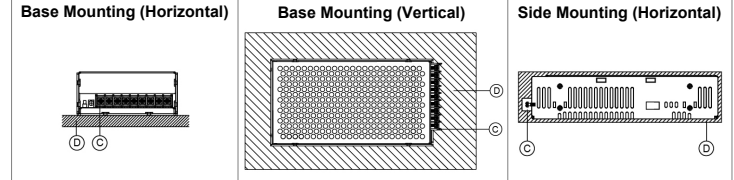
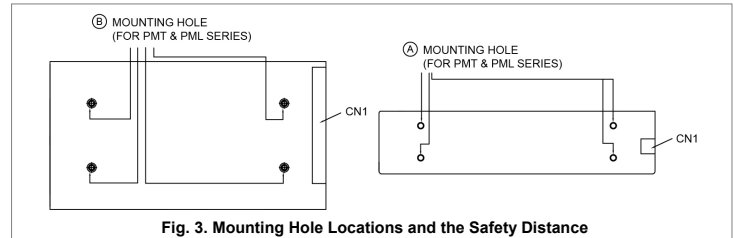
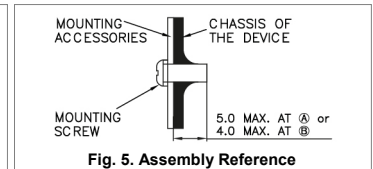

Fig. 2: Mounting Orientation
Fig. 3: Mounting Hole Locations and the Safety Distance
Fig. 5: Assembly Reference
- ① Input & Output terminal block connector
- ② DC voltage adjustment potentiometer
- ③ DC OK control LED (Green)
- ④ AC selectable switch
- Side Mounting: Fig. 2 and Fig. 3 show the mounting hole locations for power supply assembly onto a metal mounting surface. The power supply shall be mounted on minimum of 4 mounting holes using M4 screw of maximum 5mm length (Refer to Fig. 5). This is to maintain a safety distance between the screw and internal components.
- Base Mounting: Fig. 2 and Fig. 3 show the mounting hole locations for power supply assembly onto a metal mounting surface. The power supply shall be mounted on minimum of 4 mounting holes using M4 screw of maximum 4mm length (Refer to Fig. 5). This is to maintain a safety distance between the screw and internal components.
- Fig. 2: Connector
- Fig. 2: This surface belongs to customer's end system or panel where the device is mounted.